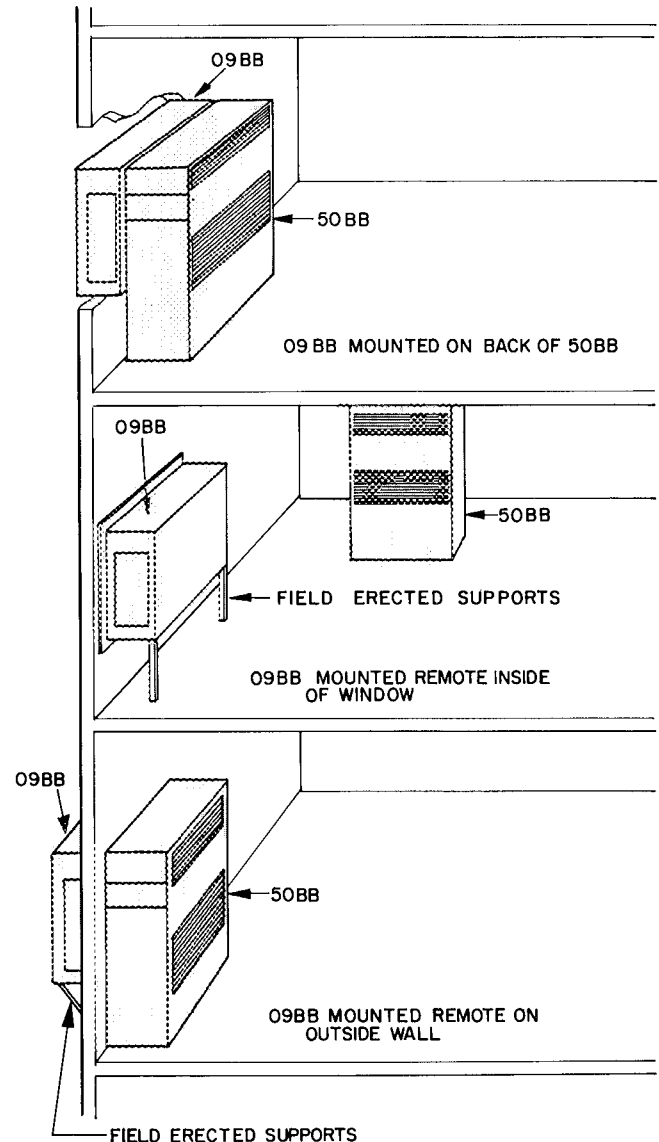
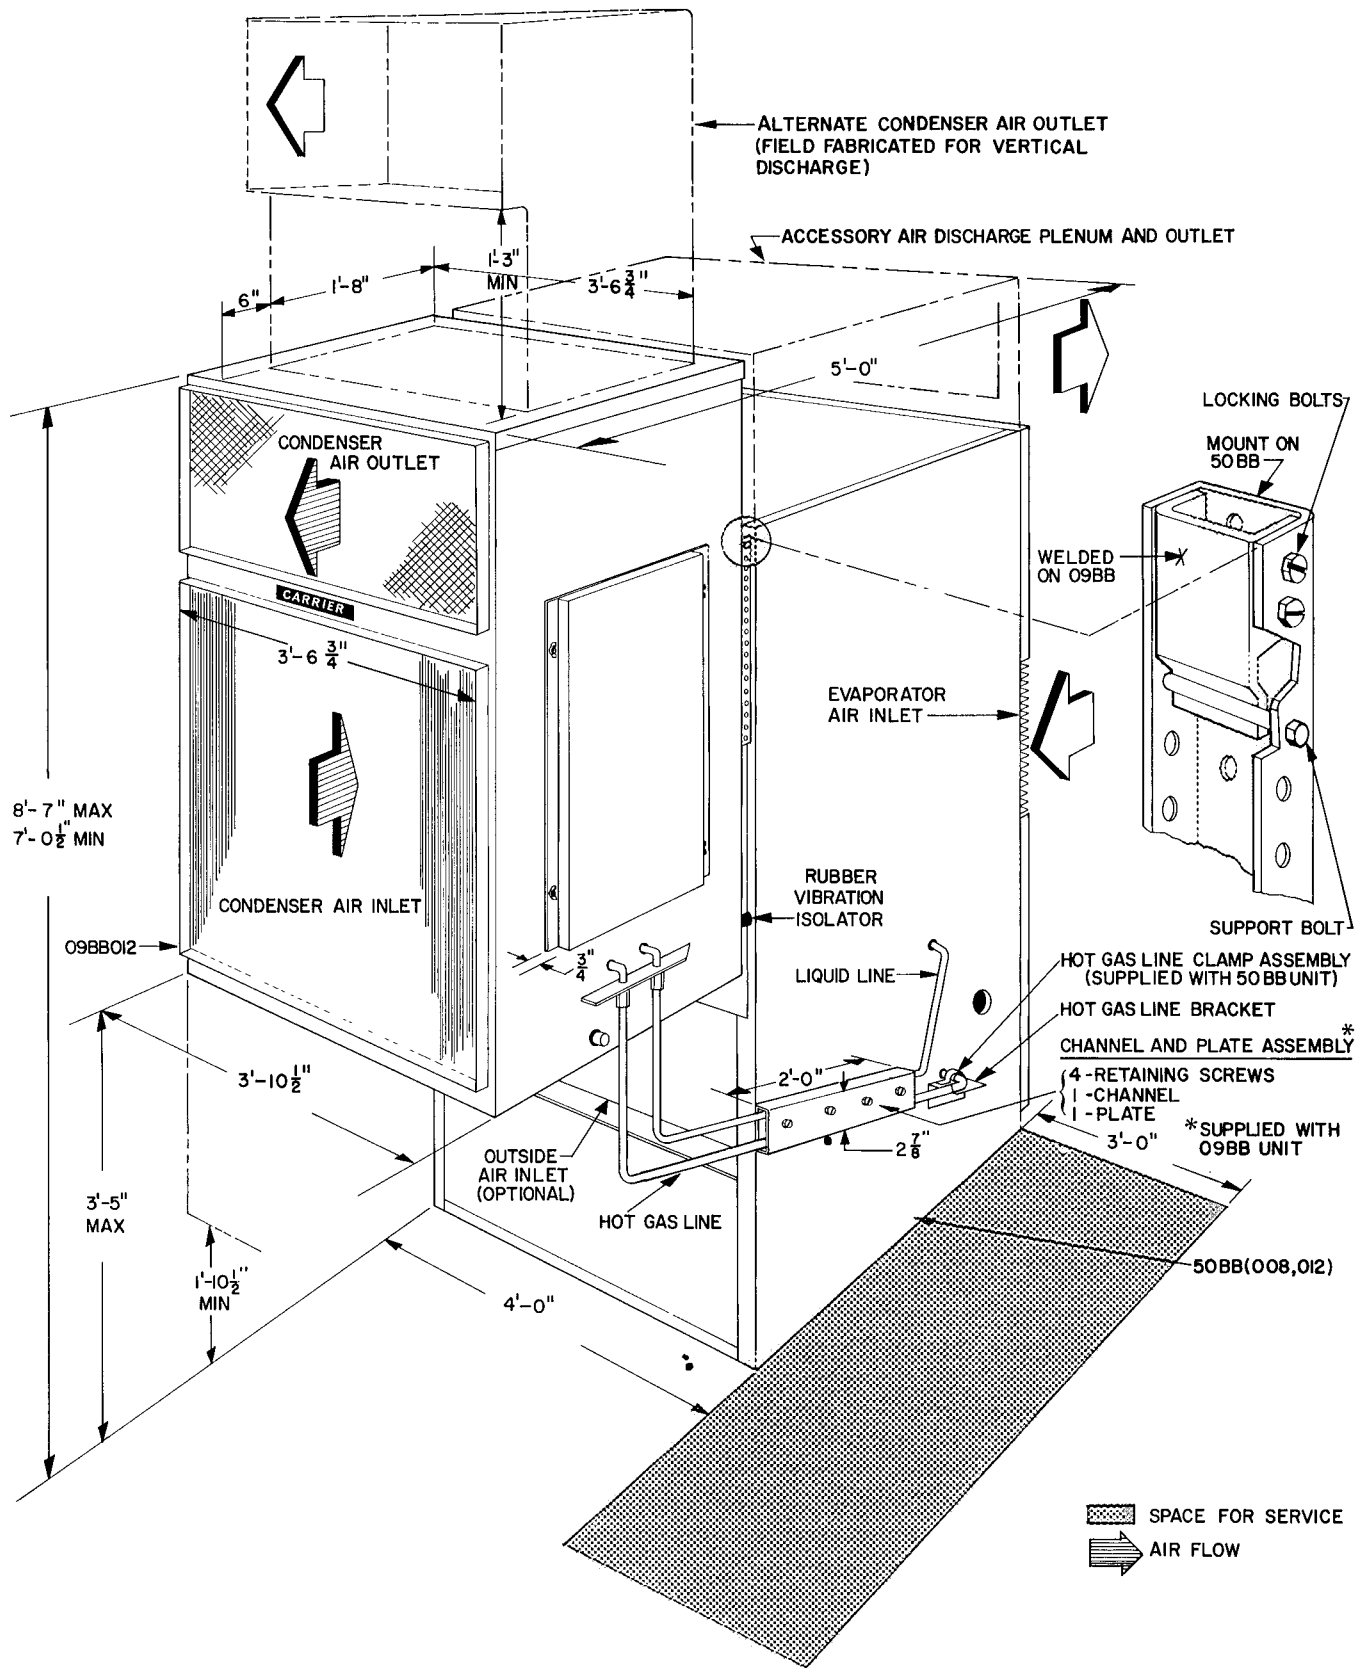

Fig. 2 - Mounting Arrangements
Fig. 3 - 50BD Combination
Before Installation - Check space requirements, service clearances, floor strength, location of piping, size of power supply, and location of ductwork (Fig. 2 and Fig. 3).
3. Install support bolts as shown in Fig. 3.
Positioning 09BB Unit - For typical installation refer to Fig. 3.
HOT GAS LINE BRACKET - Install proper size rubber-coated clamp assembly (furnished in 50BB fastener package) to hot gas line bracket (Fig. 3).
CHANNEL AND PLATE ASSEMBLY - Figure 3 illustrates correct assembling and positioning for this assembly.